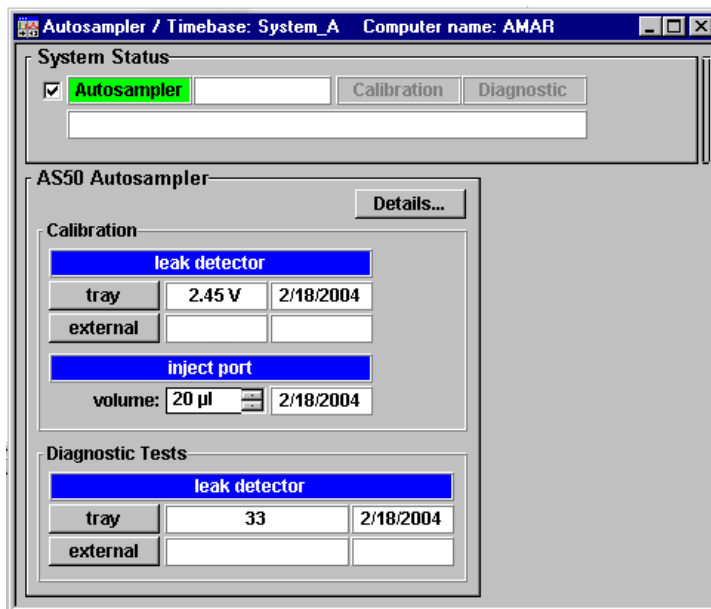

Figure 5-27. Chromeleon Wellness Panel
4. Open the **Control** menu and click **Connect to Timebase**. Connect to the timebase in which the AS50 is configured. When connected, the controls on the Wellness panel are enabled (see Figure 5-27).